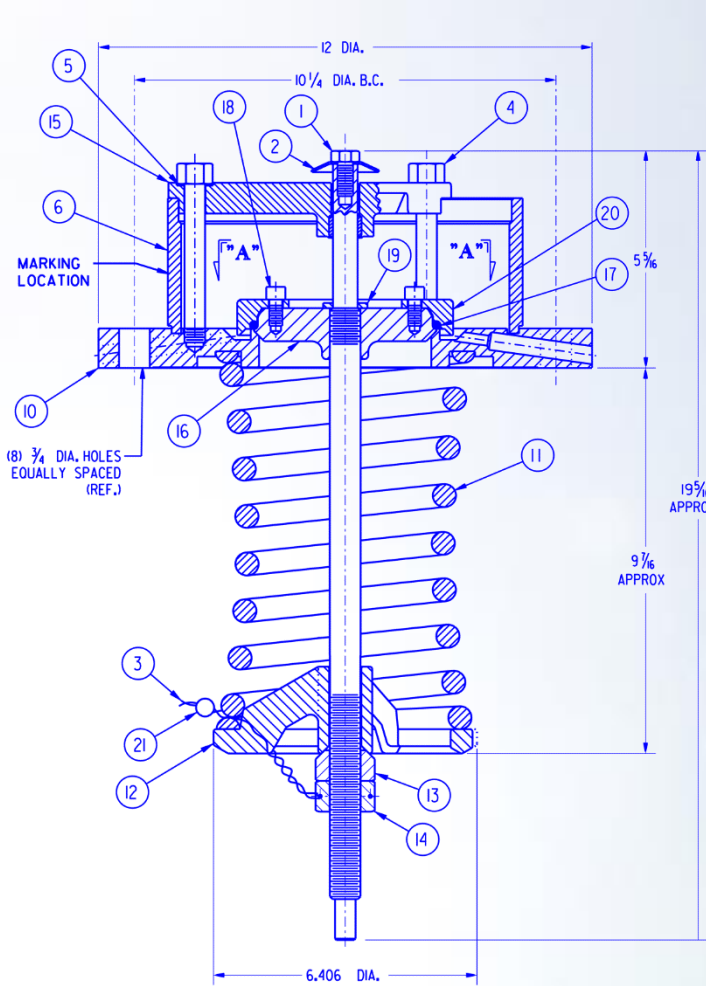

Figure 3: 85381 CS SRV Section View
6.0 High Flow SRV Disassembly: (Refer to Table 3 and Figures 3, 4, & 5)